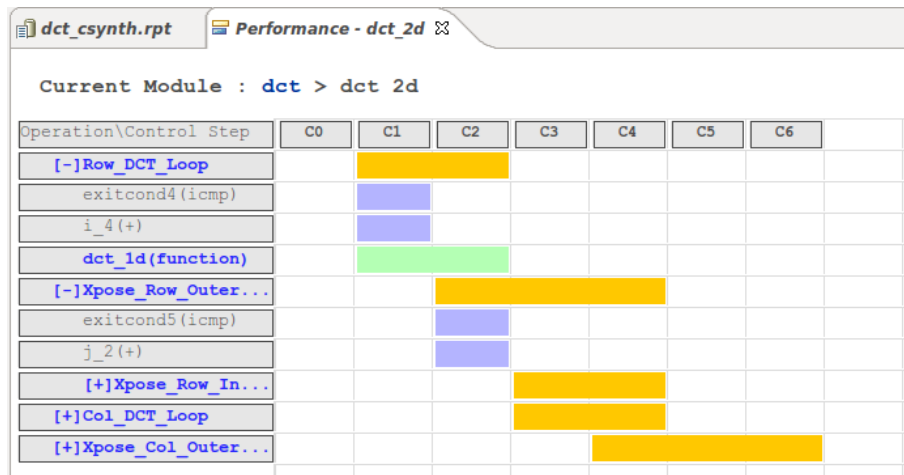

Figure 3.5.: Performance for dct 2d.
- For the implementation of *solution1* in the Analysis perspective, we can notice RD_Loop_Row and WR_Loop_Row both have latency of 144 clock-cycles. Inside *dct > dct 2d*, Row_DCT_Loop and ColDCT_Loop have latency of 1688 clock-cycles each (Figure 3.5).